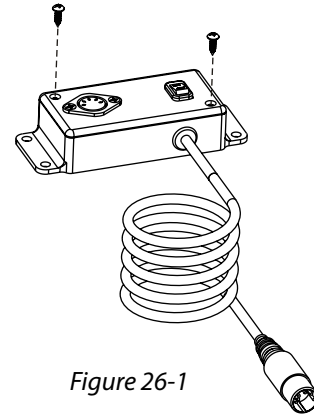

Figure 26-1
6. Carefully fold the enclosure lid back over enclosure to avoid trapping any wires. Use supplied screws (x2) to fasten the lid to the bottom enclosure. [Figure 26-1]